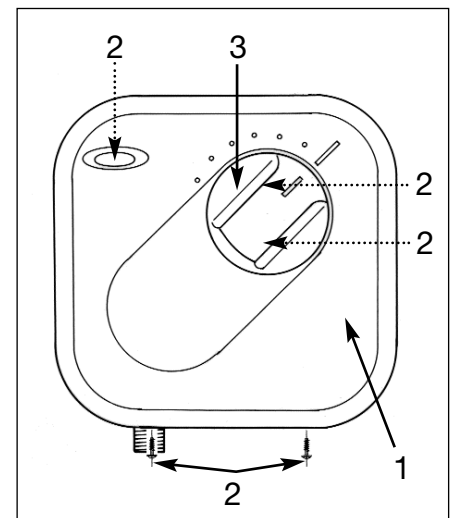

Fig.5a. 1000 Plus Manual
Manual - Fig.5a.
13. Fix the cover (1) and secure with the fixing screws provided (2). Fig.5a.
14. Push the control knob (3) onto the spindle ensuring that the splines on the knob align with the same splines on the control knob (3).